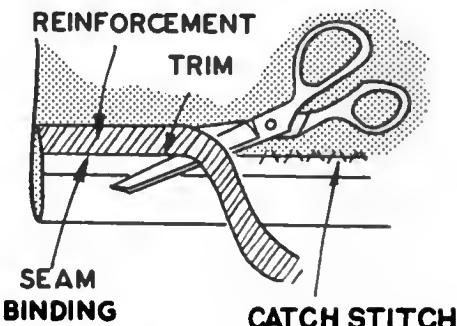

Fig. 229B. Trimming the bias reinforcement.
2. Trim the bias reinforcement so that it does not show above the tape and catch. Turn down the tape and attach it loosely to the garment with a running catch-stitch (Fig. 229B).